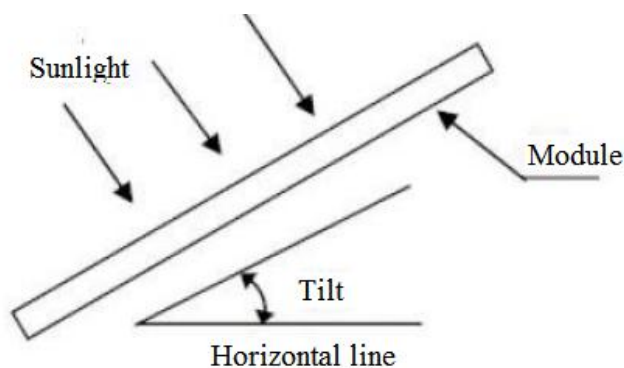

Figure 2 PV module tilt angle
2.2.4 The tilt angle of the PV module is the angle between the surface of the PV module and a horizontal ground surface (as shows in Figure 2). The PV module generates maximum output power when it faces the sun vertically. It is recommended that the installation angle of the module is bigger than 10 degrees. If you want the specific information of the best install tilt angle, please consult reliable local photovoltaic system installation companies.